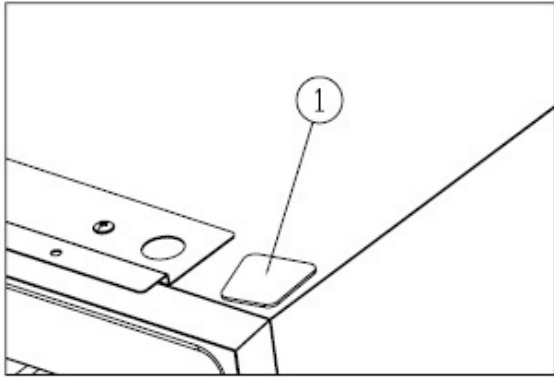

Figure 4
- ✧ Install the coverplate on mountingholes at right upper side ①.[Figure 4]